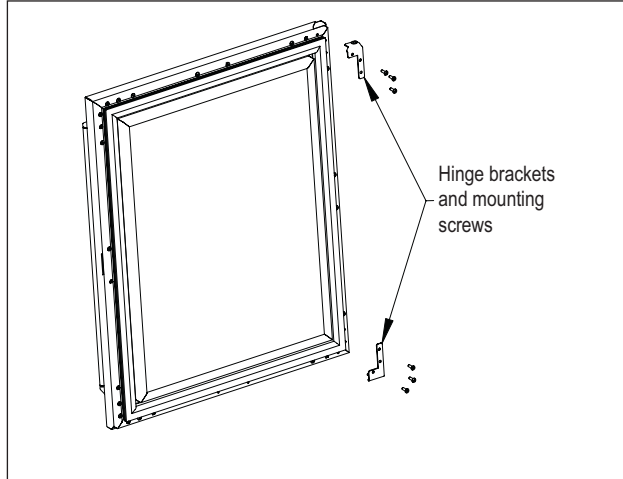

Figure 6. Door Brackets
6. Remove the top and bottom hinge brackets from the door (Figure 6). Retain the screws for later use.